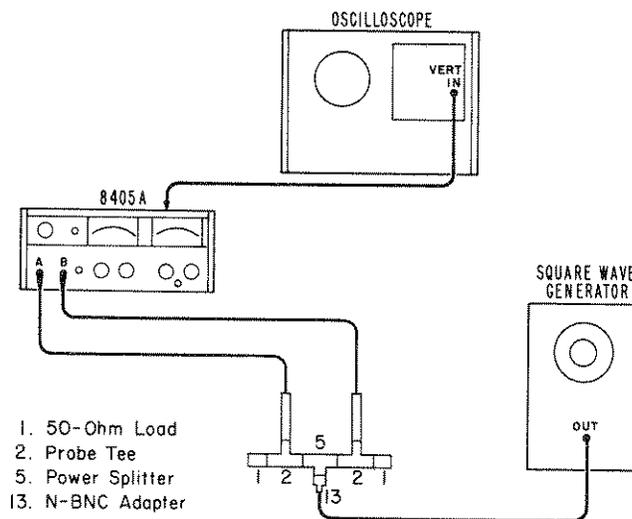

Figure 2F. Setup for Pulse Generator and Sampler Adjustments
- a. Connect test equipment as shown in Figure 2F.